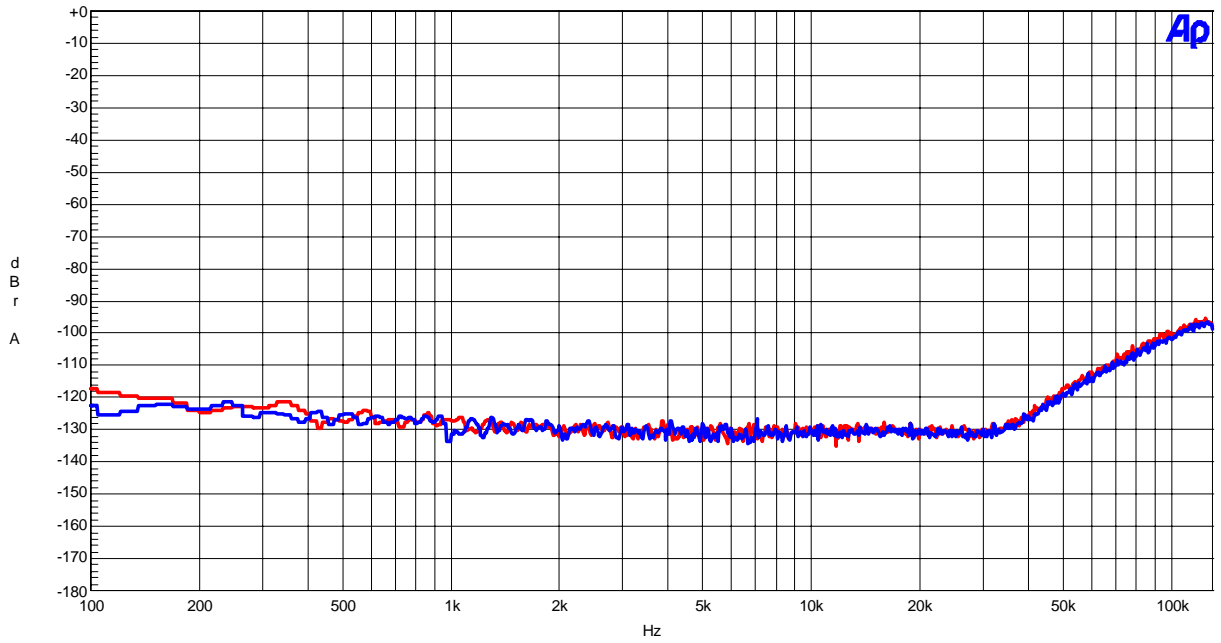

Figure 11. FFT(out-of-band noise)
- Figure 11. FFT (out-of-band noise)